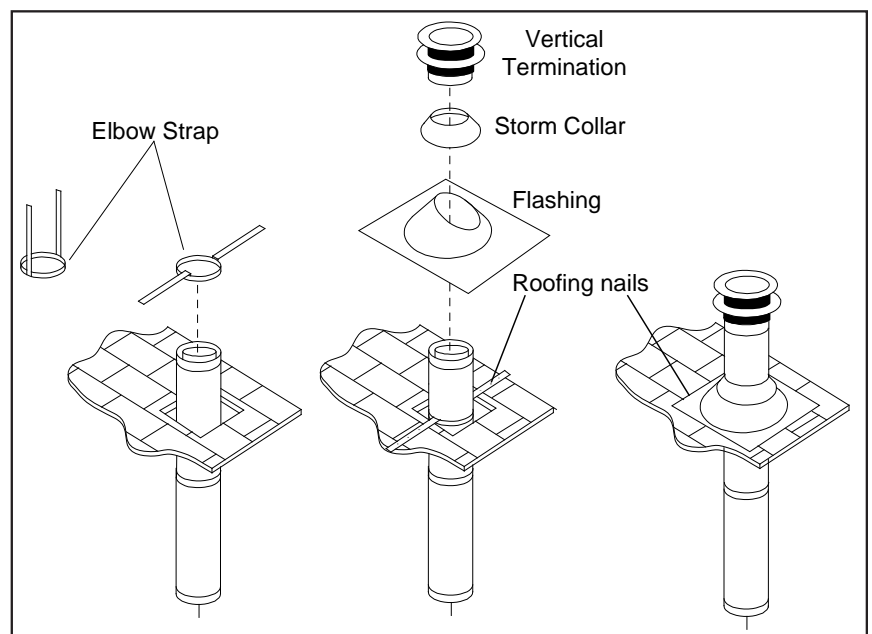

Figure 29: Vertical Vent Termination Installation.
6. Once the pipe sections have been joined, and run up through the hole in the roof, slip an elbow strap over the exposed sections, bend the support straps outwards, and push the elbow strap down to the roof level, as shown in Figure 29. Tighten the clamp around the pipe section. Use a level to make sure the pipe is truly vertical. With roofing nails, secure the support straps to the roof. Seal the nails holes heads with non-hardening mastic. Trim the excess length of the support straps that extend out beyond the edge of the flashing.
7. Slip the flashing over the pipe section protruding through the roof. Secure the base of the flashing to the roof with roofing nails. Use a non-hardening sealant between the uphill edge of the flashing and the roof. Insure the roofing material overlaps the top edge of the flashing as shown in Figure 29. Verify that you have at least the minimum clearance to combustibles at the roof line.
9. Slip the storm collar over the pipe, and push it down to the top of the roof flashing as shown in Figure 29. Use the non-hardening sealant around the joint between the pipe and the storm collar.